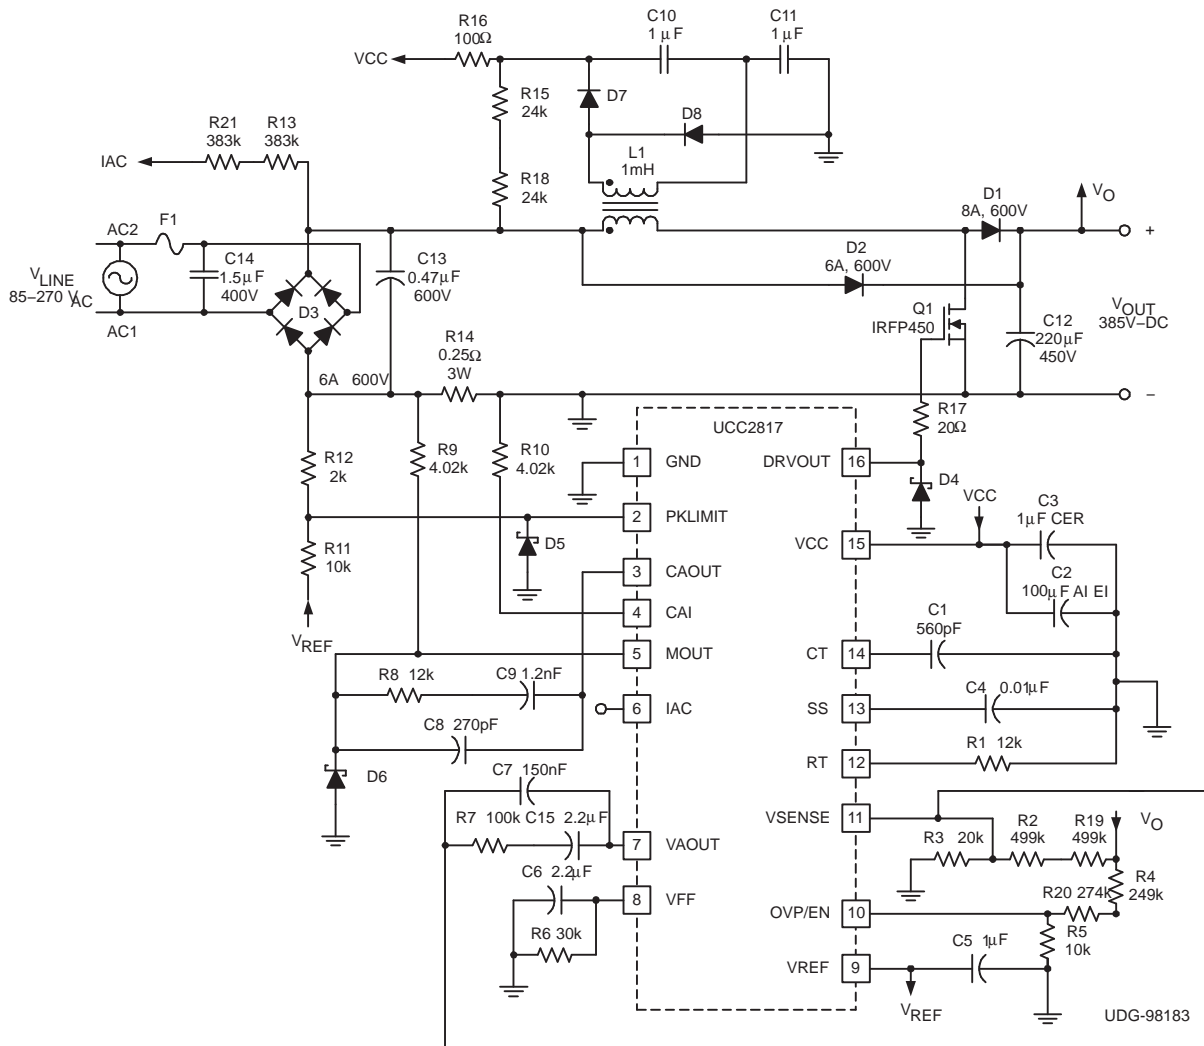

Figure 1. Typical Application Circuit
The UCC2817 is a BiCMOS average current mode boost controller for high-power-factor, high-efficiency, preregulator power supplies. Figure 1 shows the UCC2817 in a 250-W PFC preregulator circuit. Off-line switching power converters normally have an input current that is not sinusoidal. The input current waveform has a high harmonic content because current is drawn in pulses at the peaks of the input voltage waveform. An active power-factor correction circuit programs the input current to follow the line voltage, forcing the converter to look like a resistive load to the line. A resistive load has 0° phase displacement between the current and voltage waveforms. Power factor (PF) can be defined in terms of the phase angle between two sinusoidal waveforms of the same frequency:
The UCC2818 version of the device is intended to have V_{CC} connected to a 12-V supply voltage. The UCC2817 has an internal shunt regulator enabling the device to be powered from bootstrap circuitry, as shown in the typical application circuit of Figure 1. The current drawn by the UCC2817 during undervoltage lockout, or start-up current, is typically 150 μA. Once V_{CC} is above the UVLO threshold, the device is enabled and draws 4 mA typically. A resistor connected between the rectified ac line voltage and the V_{CC} pin provides current to the shunt regulator during power up. Once the circuit is operational, the bootstrap winding of the inductor provides the V_{CC} voltage. Sizing of the start-up resistor is determined by the start-up time requirement of the system design.